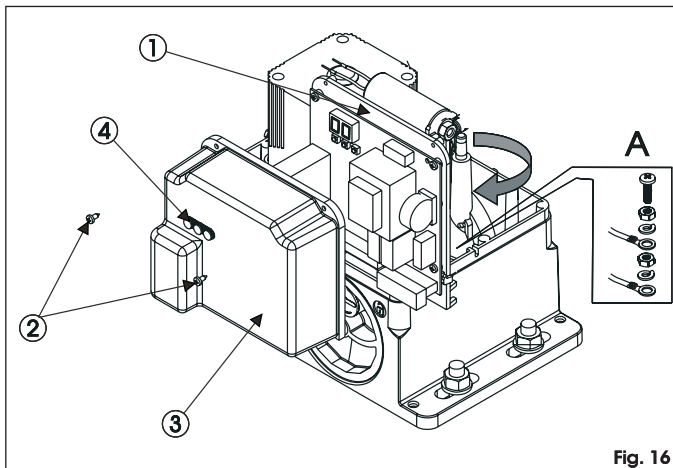

Fig. 16
Connect the earth cables as shown in Fig. 16 ref. A.
In the gearmotors, the electronic control unit is fitted to an adjustable support (Fig. 16 ref. 1) with transparent lid (Fig. 16 ref. 3). The board programming push buttons (Fig. 16 ref. 4) have been located on the lid. This allows the board to be programmed without removing the lid. For correct connection of the control unit, follow indications the specific instructions.